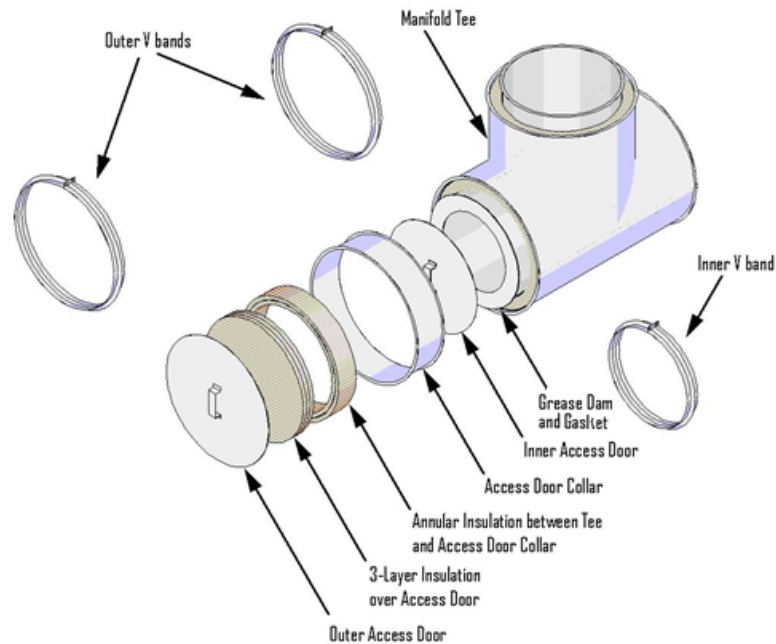

Figure 2. Access Door Assembly
- B. ACCESS DOOR – When required, use the duct manufacturer's manifold tee and access door (tee cap) assembly (see Figure 2). Apply a 1/4 in. continuous bead of sealant (Item 2A) to the inner flange of the tee on the side where access door is to be located. Center the supplied grease dam over the opening of the tee. Verify that the grease dam is sealed to the tee flange by applying pressure.